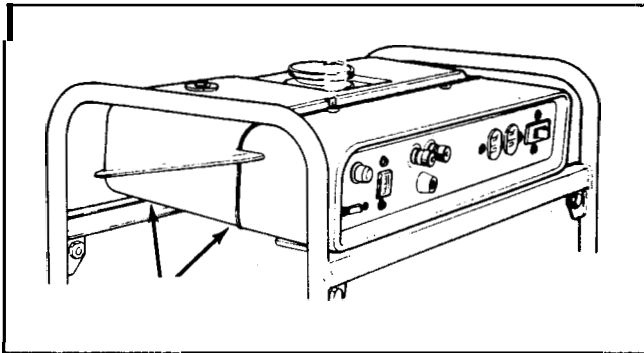

Figure 8
4. Remove two hair pin clips from the bottom of the gasoline tank. See Figure 8.